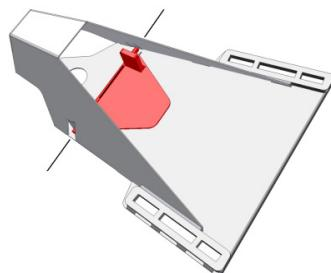

Figure 14: Align Rainflap Rod
2. Align the other side of the rainflap rod with the unbent hinge tab. (**Figure 14**)